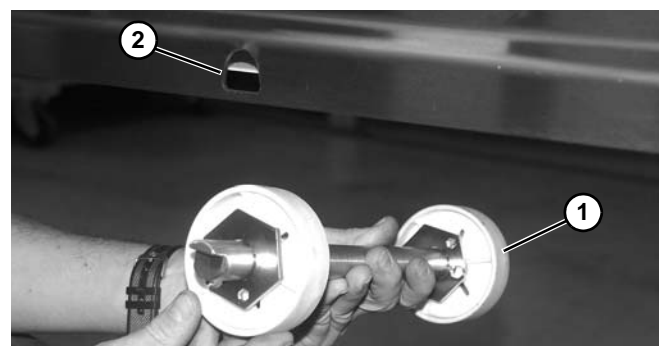

Figure 19
3. Install belt return assembly (Figure 19, item 1) onto the slotted holes (Figure 19, item 2) on each side of conveyor frame.